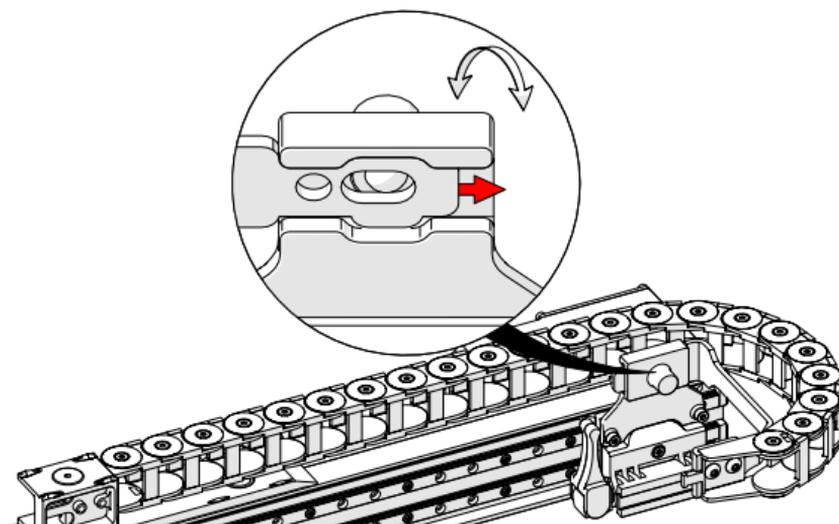

Fig. 60 - Slide bracket attaching to carriage
3. Slide the cable tray bracket until it locks in place (*Fig. 60*).